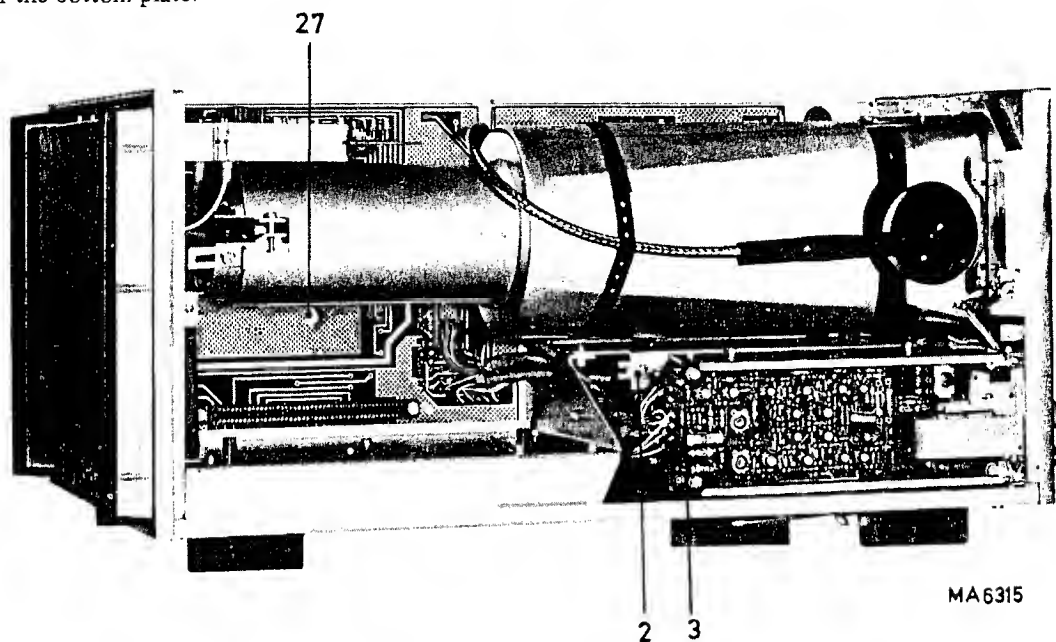

Fig. 32. Dismantling: left-hand side view
E. REMOVING PRE-AMPLIFIER UNIT 1 (Fig. 32)
(Figs. 32 & 42)
M. REMOVING MAINS TRANSFORMER UNIT 10 (Figs. 32 & 46)